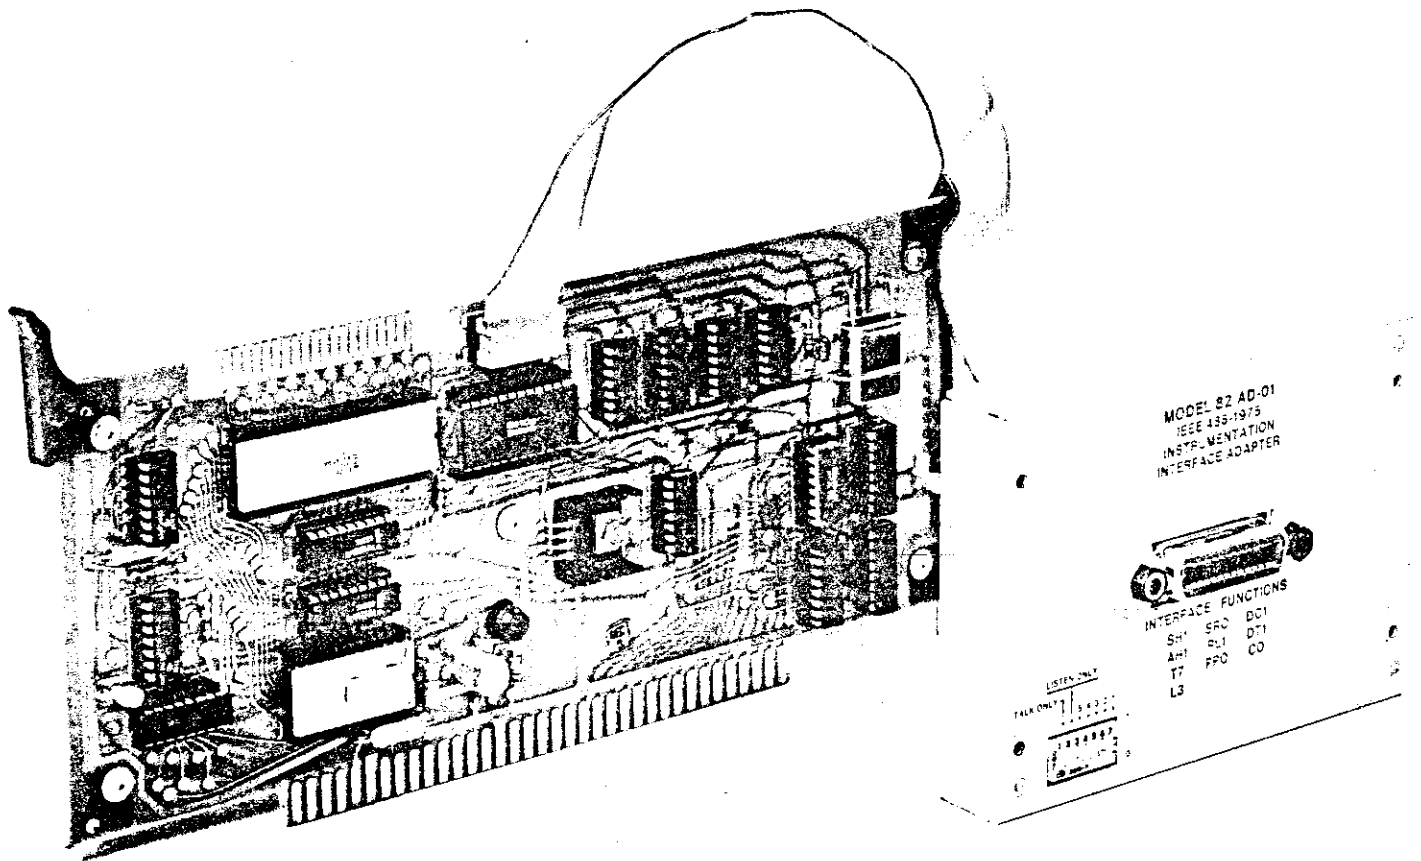

Figure 1-1. Model 82AD-01 IEEE 488-1975 Bus Interface Option
1.2 This handbook provides descriptive data, operating instructions, theory of operation, maintenance instructions, and a parts list for the Model 82AD-01 IEEE 488-1975 Bus Interface Option. (See Figure 1-1.) The 82AD-01 is manufactured by Boonton Electronics Corporation, Parsippany, New Jersey.